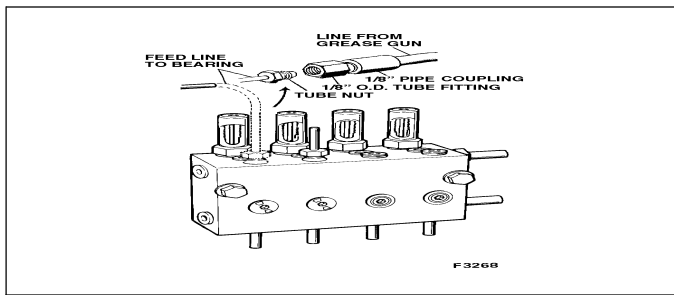
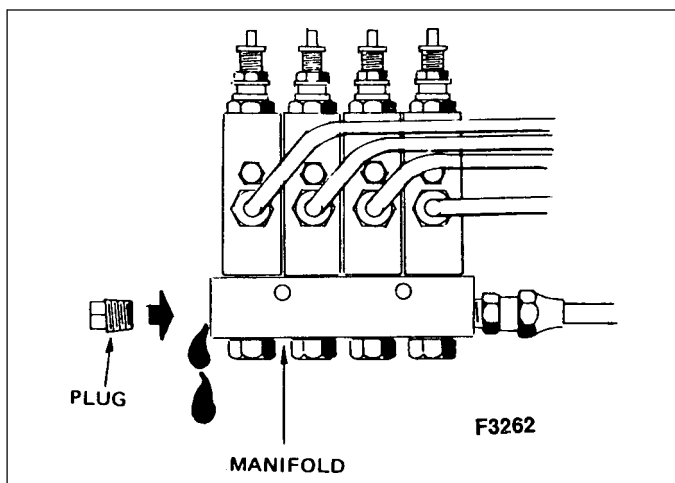
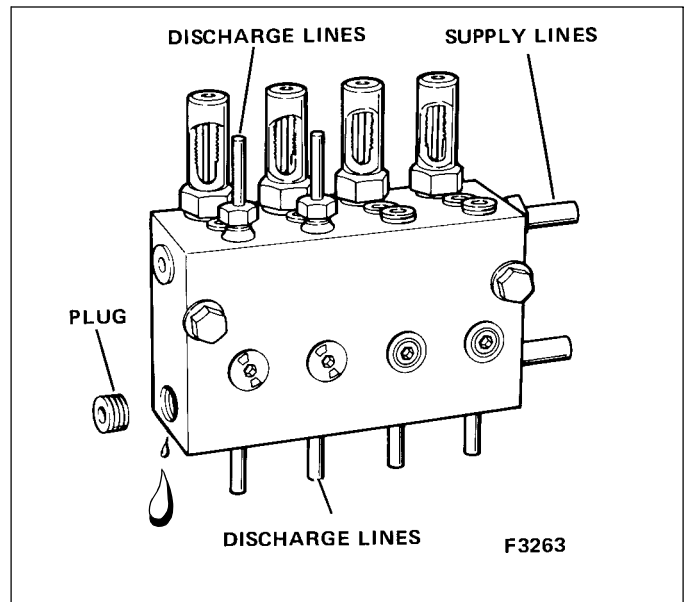

Figure 10-50. Bleeding Air - Fittings
Figure 10-51. Bleeding Air - Injector Manifolds
Figure 10-52. Bleeding Air - Measuring Valves
BLEEDING AIR FROM SUPPLY LINES - SYSTEM. To bleed air from the automatic lubrication system, refer to Figure 10-50, Figure 10-51, and Figure 10-52 and proceed as follows:
- A. If there are fittings which could trap air, such as in Figure 10-50, start with the fitting closest to the lube pump, removing each plug in order and run the lube pump until lubricant flow is free of air or foreign matter. Then install and tighten the plug and move on to the next fitting.
- B. Remove the plug(s) at the end of the section. It will be located on the injector manifold as shown in Figure 10-51 (Lincoln system) or on the measuring valve as shown in Figure 10-52 (Farval systems). On Farval systems, remove both plugs on the measuring valve.
To bleed air from the supply lines after the installation of a component, refer to Figure 10-50, Figure 10-51 and Figure 10-52 and proceed as follows:
2. If an injector or set of injectors were installed or if measuring valves were installed, remove the plug(s) at the injector (see Figure 10-51) or measuring valve (see Figure 10-52). If a reversing valve (Farval) or pressure switch (Lincoln) was installed, or if a hose or pipe was replaced, loosen the next fitting in that section of supply line. Use a drain pan to collect the lubricant discharged during the bleeding process.